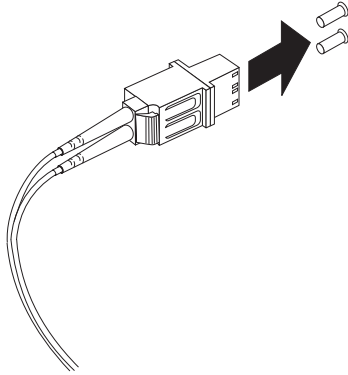

Figure 25. Removing the LC-SC cable adapter protective caps
3. Remove the two protective caps from the LC connector end of the LC-SC cable adapter as shown in Figure 25. Save the protective caps for future use.